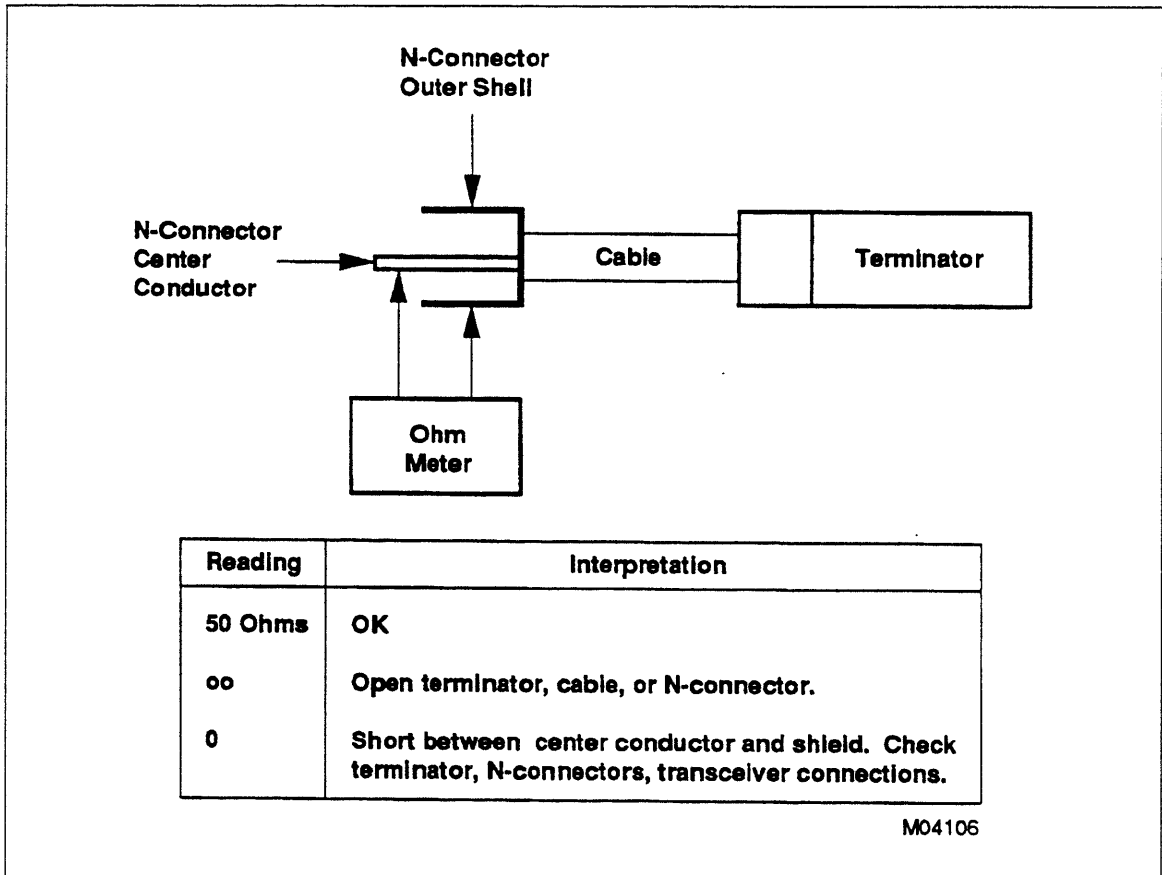

Figure 5-11. Continuity Check on Segment Cable
4. Interpret reading according to the table in figure 5-11.